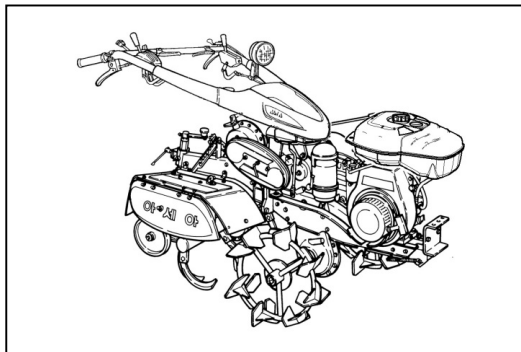

Fig.9-6
- Turn on the opposite side of the handle, as shown in [Fig. 9-6], please fix the rotary side.